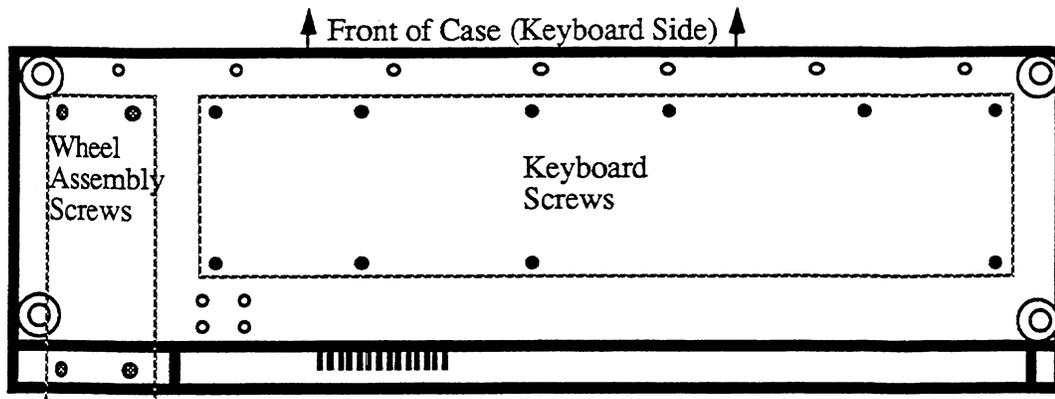

Figure 14 -Bottom of Case
2. Remove the four (4) screws that secure the control panel with a 2.5mm hex wrench. **NOTE:** These are machine screws.
3. Place the unit upside down on a soft surface and remove the ten (10) screws that attach the Keyboard to the case. See Figure 14 for location of screws.
2. Remove the four (4) screws that fasten the control panel with a 2.5mm hex wrench. **NOTE:** These are machine screws.
3. Place the unit upside down on a soft surface and remove the four (4) screws that attach the Wheel Assembly to the case. See Figure 14 for location of screws.
3. Turn the unit over, top down, and remove the four (4) screws that attach the Wheel assembly to the case. See Figure 14 for location of screws. Return the unit to an upright position and raise the control panel. Carefully lift the wheel assembly out of the case.
5. Remove the four (4) screws and star washers that attach the Disk Drive to the wheel assembly.